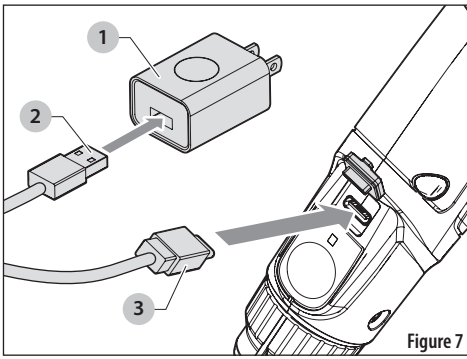

Figure 7
1. Plug the charger (1) into an appropriate outlet.
2. Ensure the USB-C cord (2) is fully inserted into the charger.
3. Insert the other end of the USB-C (3) cord into the charging port located above the power button on the handle of the power wand sprayer. See Figure 7.